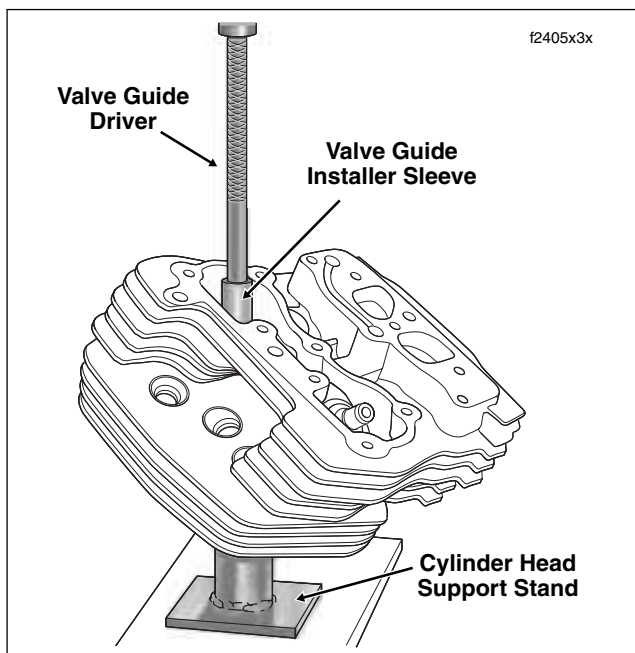

Figure 3-70. Install Valve Guide
- Center valve guide driver under ram of arbor press and apply pressure only until valve guide is started in bore and then back off ram slightly to allow guide to center itself. See Figure 3-70.